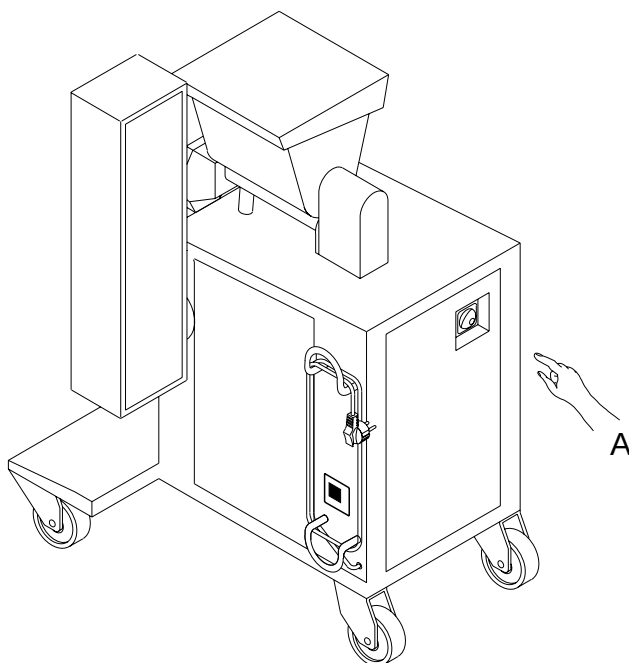

Fig.4.6
- b. Turn on the main switch located on the rear panel of the machine (*A Fig.4.6*).